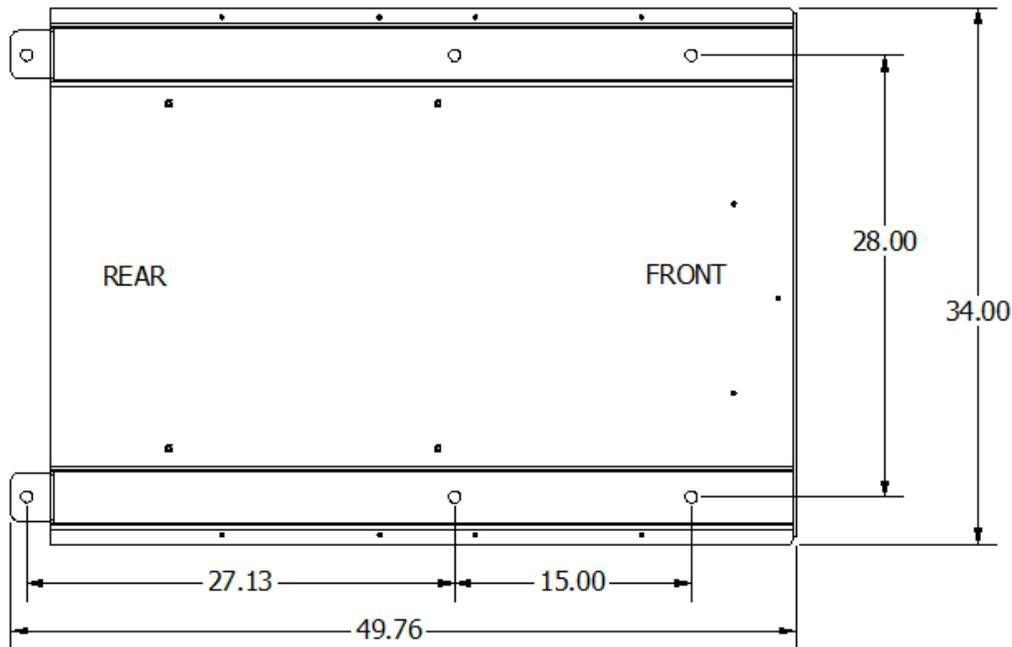
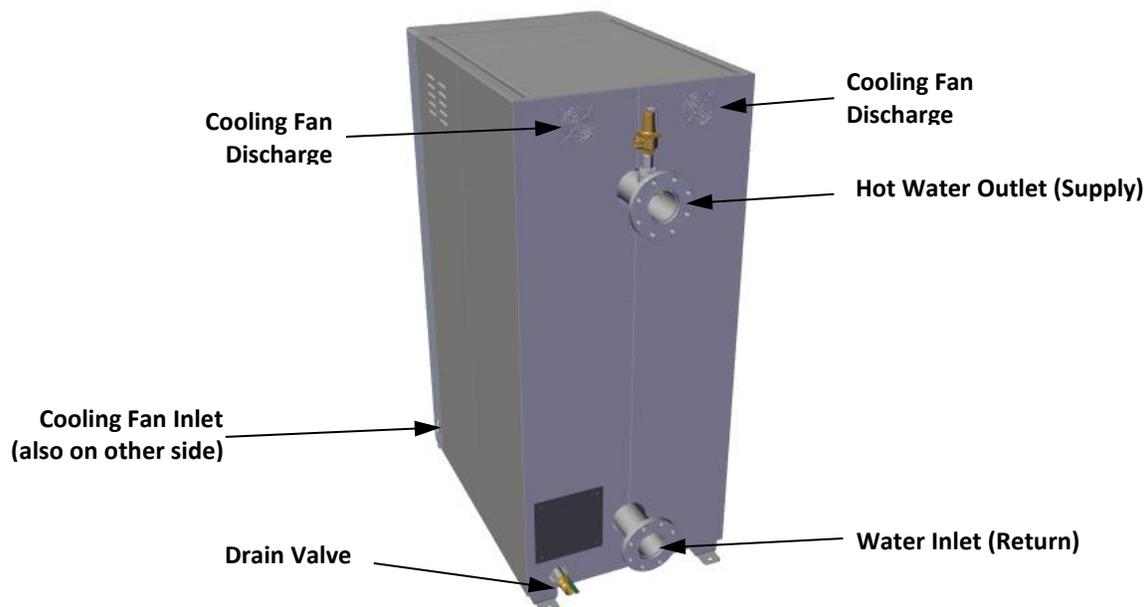

Figure 2-2: BMK E 216-684 Anchor Bolt Locations
Figure 2-4: BMK E 216-684 Supply and Return Locations
If anchoring the unit, refer to Figure 2-2 for anchor locations.
Three lifting lugs are provided at the top of the pressure vessel as shown in Figure 2-4. Remove the top panel from the unit to provide access to the lifting lugs. Remove the four (4) nuts securing the unit to carriage bolts on the shipping skid. These nuts are located at the front and rear anchor bolt locations shown in Figure 2-2. Lift the unit off the shipping skid and position it on the housekeeping concrete pad (required) in the desired location.